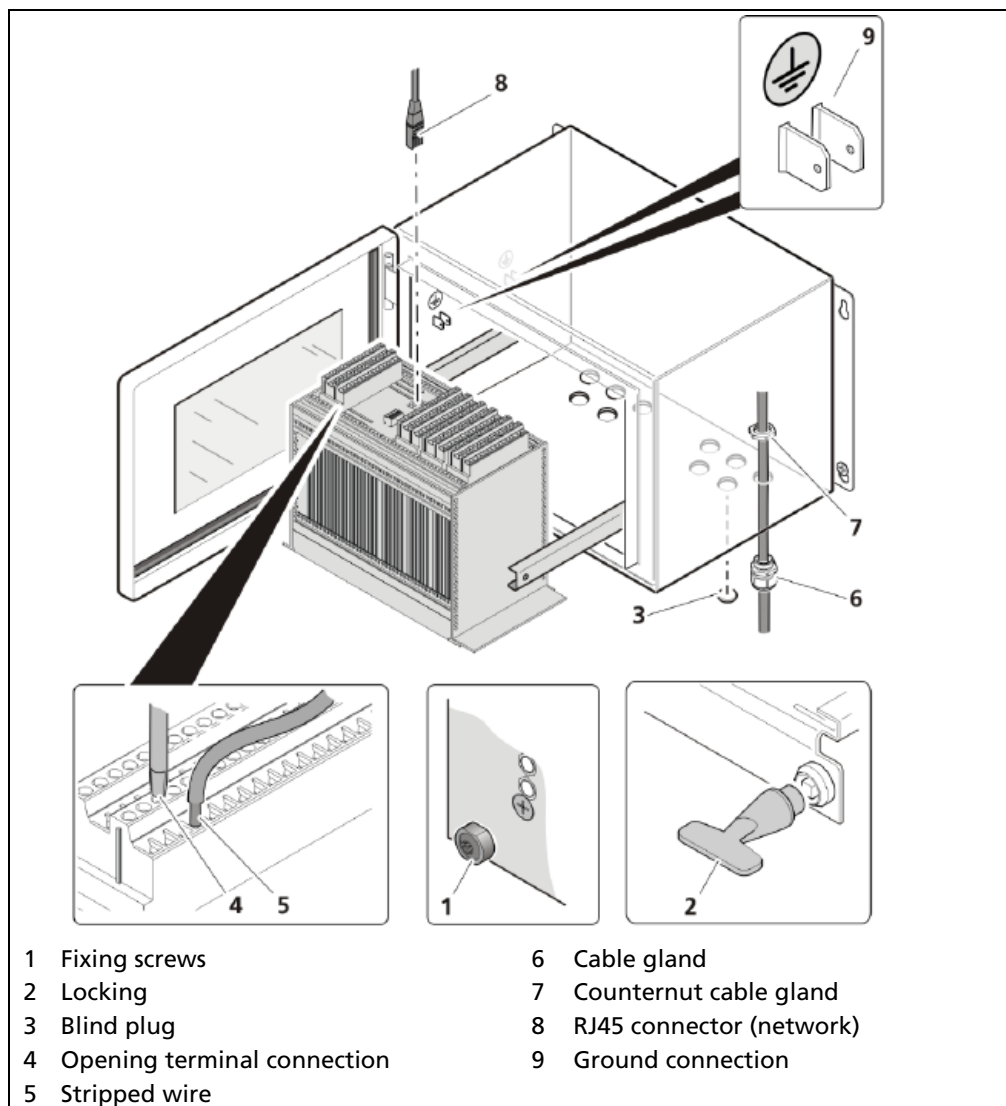

Fig. 12 Electrical connection in the wall housing
1. Make sure that the locking bolts (Fig. 12, item 1) of all modules are tightened in order to prevent slipping.
2. Loosen the lock (Fig. 12, item 2) using the supplied square key and pull the subrack out.
4. Run the cables through the cable glands (Fig. 12, item 6) through the openings of the wall housing and through the counternut cable glands (Fig. 12, item 7).
5. Screw the cable glands (Fig. 12, item 6) with the counternut cable glands (Fig. 12, item 7).
7. Open the terminal screw (Fig. 12, item 4) and insert the stripped wire (min. 8 mm) (Fig. 12, item 5).
9. Plug the network plug into the RJ45 socket (Fig. 12, item 8) (optional).
10. Tighten all cable glands (Fig. 12, item 6) to ensure optimal sealing and tension relief until the gasket insert closes between screw down nut and cable.
12. 11. Close all unused openings with the appropriate blind plugs (Fig. 12, item 3).
13. Check the correct connection of the ground connection (Fig. 12, item 9).